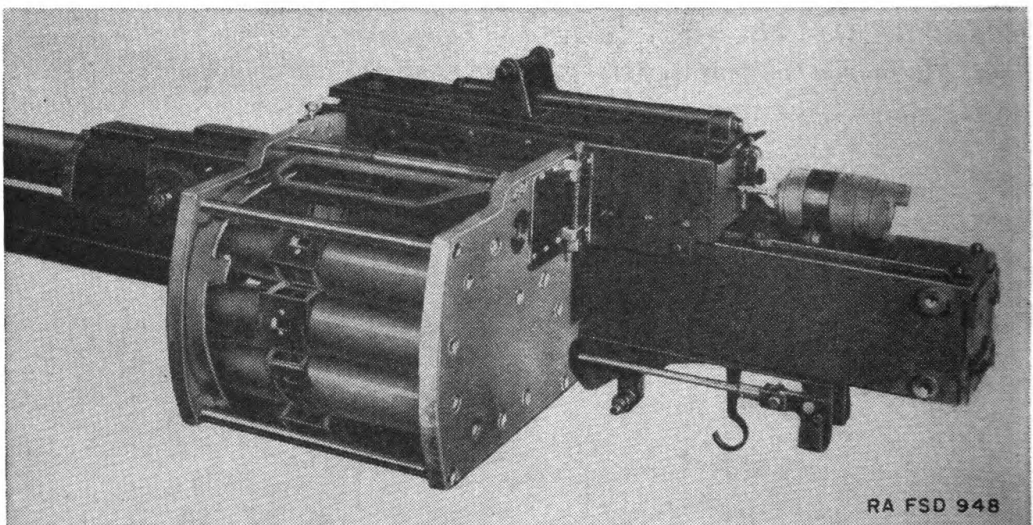

FIGURE 8.—Magazine, left side, showing 15-round attached and trigger solenoid in place.
11. Loading gun from 15-round magazine.—*a.* Mount the magazine on the feed box, and attach the ejection chute to the right side of the feed box (fig. 8).